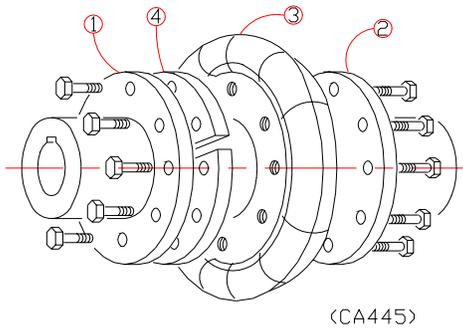
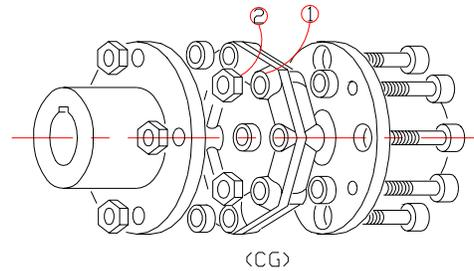

Fig. 35
Fig. 36
Two types of direct drive coupling may be used either the CA type (Fig. 35) or CG type (Fig. 36), both types are subject to critical alignment tolerances.
- a) Remove coupling bolts (Fig. 35 [1 & 2]).
- a) Tighten the outer circle of rubber block (Fig. 36 [1]) with the attached steel strap [2].